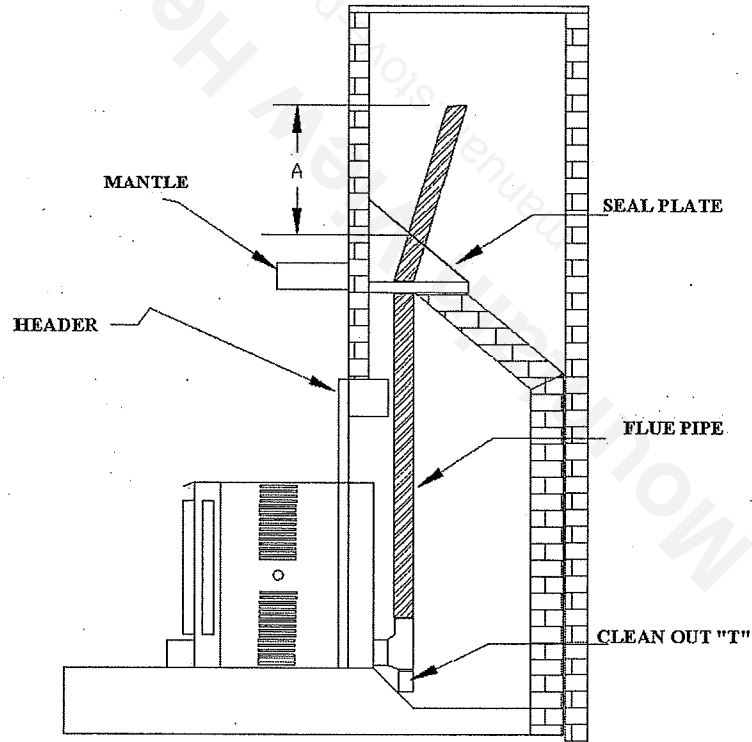

FIGURE 9: MINIMUM FLUE VENT CHIMNEY INSTALLATION
3. Flue pipe joints need to be joined tightly to ensure air tight venting with at least (3) sheet metal screws and sealed with RTV silicone or approved aluminum flue pipe tape.
4. FIGURE 9, shows one vent pipe method when installing an NPS-1000 into an existing masonry fireplace. The flue pipe is extended a minimum of 18" past an existing damper with a seal plate installed at or above the damper. Although this is an approved inset flue pipe method, Country Flame strongly recommends that flue pipe be extended to the top of the chimney and properly terminated and capped to ensure optimum performance